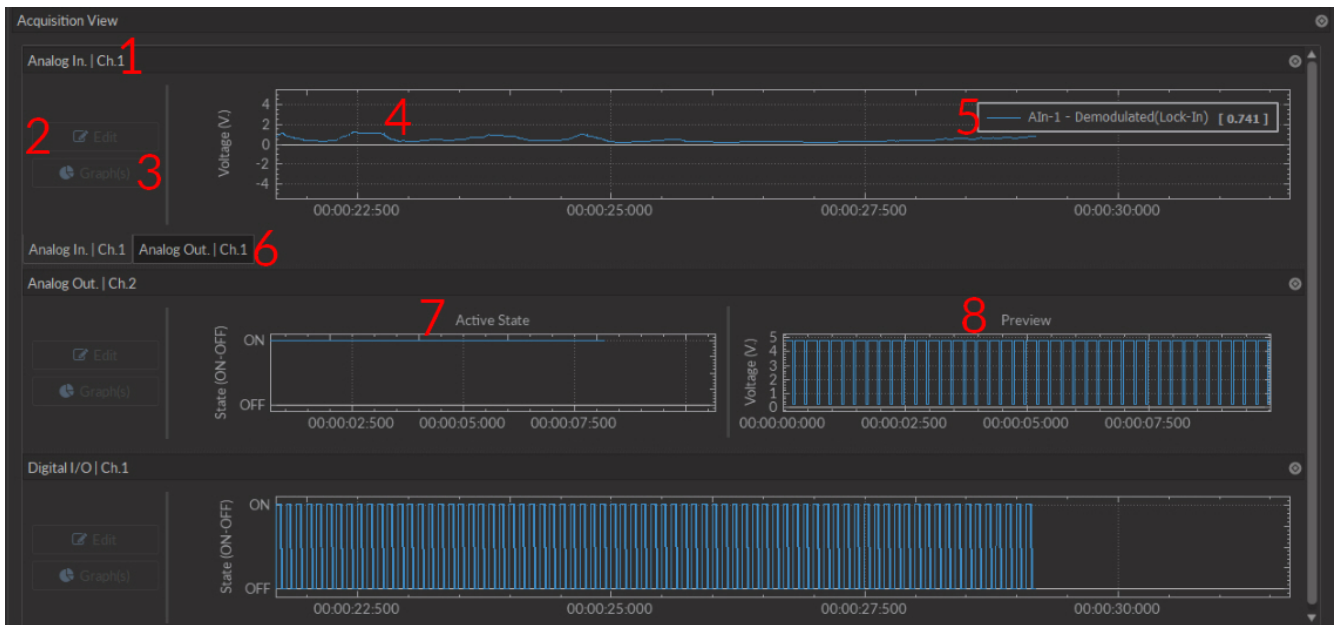

Figure 3.35: Acquisition View Box
1. The **Channel name** is located on the upper left of the **Channel box** (Fig. 3.35), identifying the type of channel and its number, corresponding to that on the console. This name can be modified in the **Graph options** window.
2. The **Edit** button (Fig. 3.35) allows the editing of channel parameters, opening the channel configuration windows. For further information, see section 3.2.1.
3. The **Graph(s)** (Fig. 3.35) button opens the **Graph Options** window.
4. The **Graph** (Fig. 3.35) box displays the graph of a channel, with **Voltage** or **State** as the vertical axis and **Time** as the horizontal axis. Double-clicking either axis will open a **Change Axis Range** window that allows the axis limits to be changed, as in the **Zooming Menu**. Any changes done on a horizontal axis will change the axis limits for each channel.
5. The **Instant values** box (Fig. 3.35) can be activated by right-clicking the **Input graph** box and selecting **Show instant values**. This box shows the current value detected by the console for each trace on the selected channel. This box cannot be activated on **Preview graphs**.
6. The **Channel tabs** (Fig. 3.35) appear in certain input modes (such as **Interleaved** and **Lock-in**) where the input automatically sets the output values on separate channels. It is possible to create a **Channel tab** by undocking one channel and moving it above another until it turns blue, then releasing it.
7. Analog output channels display an **Active state** graph (Fig. 3.35). This graph displays whether the channel is outputting a signal (On, $V \neq 0$) or not (Off, $V = 0$).
8. Output channels display a **Preview** graph (Fig. 3.35), showing a preview of the pulse sequence.